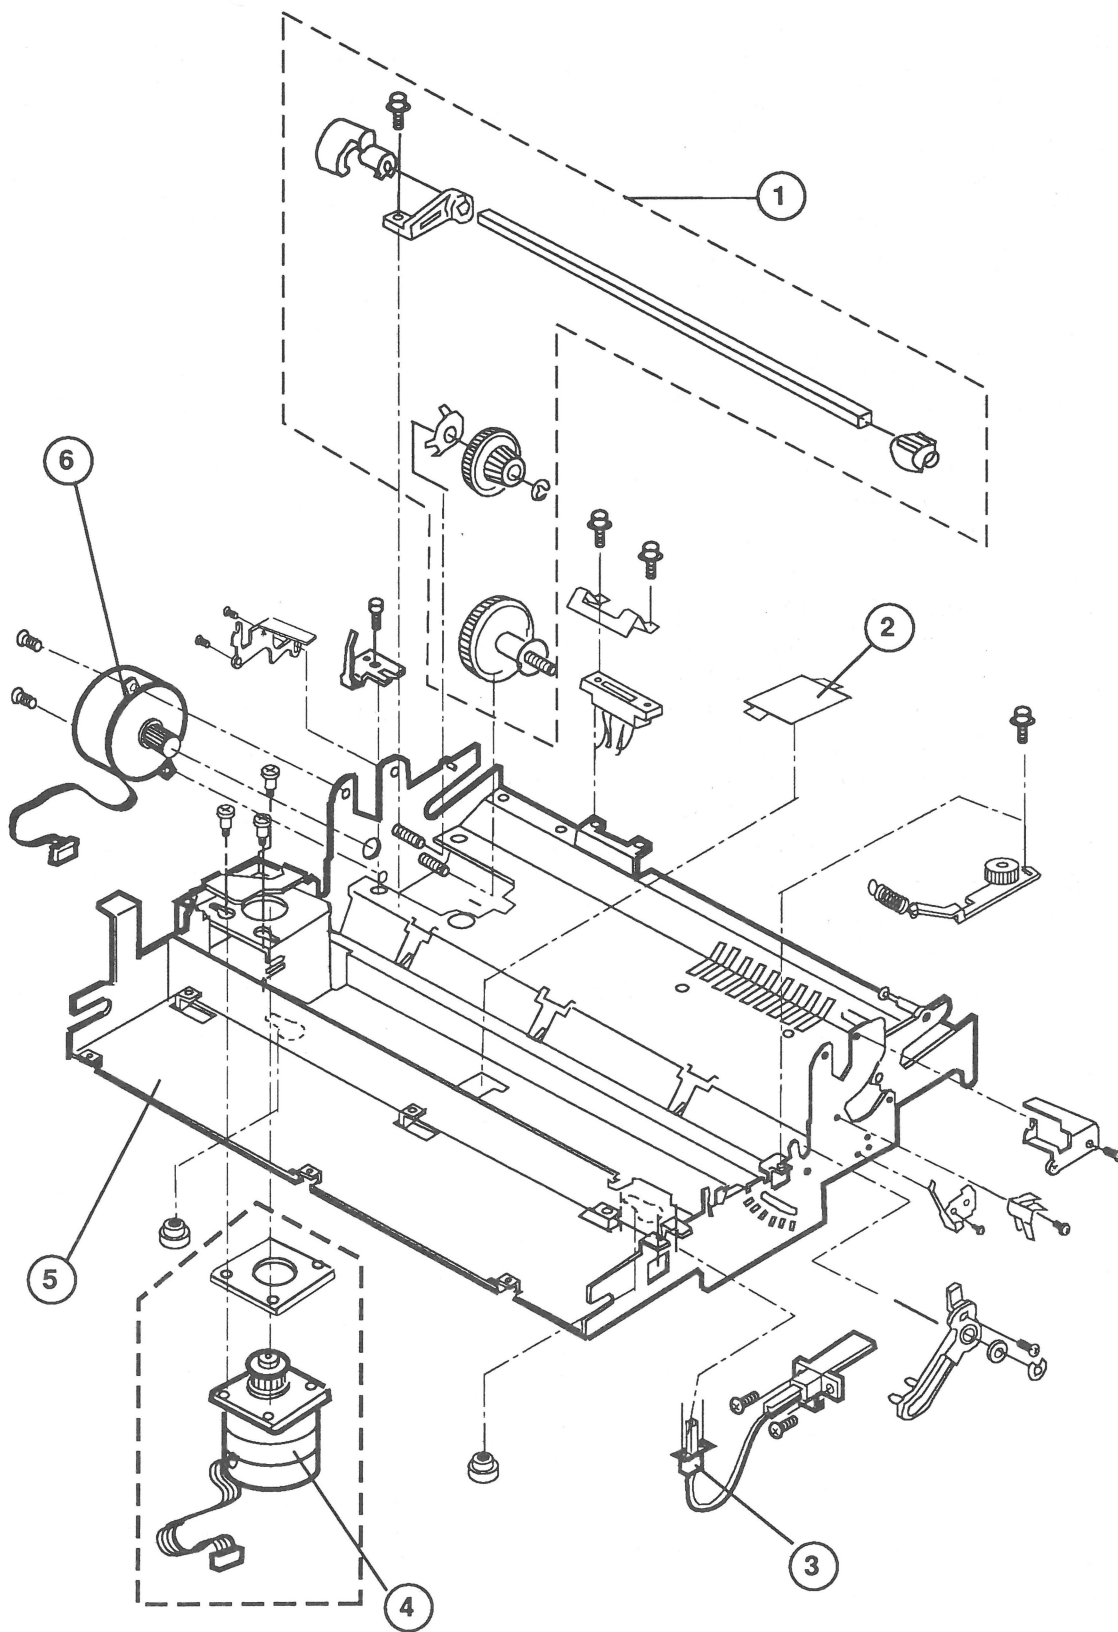

Figure 1
IPL.5	Frame (Figure 1)
□ FRAME (Figure 1)
The following screws, E-clips, etc., are used in the parts shown in Figure 1: